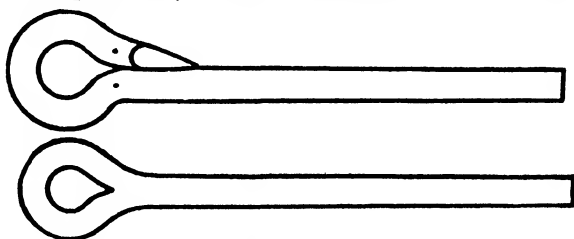

FIG. 50
25. Place the stock near the tip of the horn so that the taper extends just past the horn and is inclined upward. With the work in this position strike glancing blows just beyond the horn and push the work forward as it is bent until all of the stock that was bent to a right angle is formed into a circle and the full length of the taper rests on the shank of the eye, and the butt end of the taper rests at the center punch mark. Bend the taper until it lies centrally along the stock. Fig. 50.